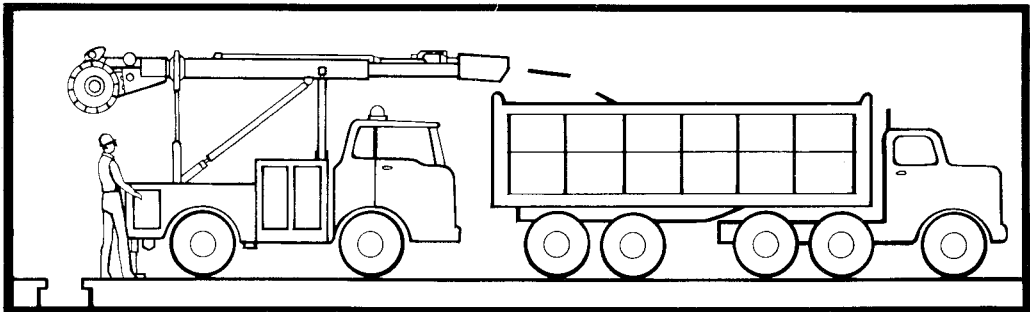

Fig. 17—Clearing the Machine
**4.17** Allow the end of the cable to pass through the nip roller. At this point, press the SHEAR OFF button and stop the pulling wheel. Raise the rear of the machine as high as possible without bringing the discharge end in contact with the dump truck. Press the SHEAR ON button and watch to see that the remaining length of cable is cut into short pieces as it is pulled from the boom (Fig. 17). After the last piece of cable exits, press the SHEAR OFF button when the cutter cylinder reaches its high position.